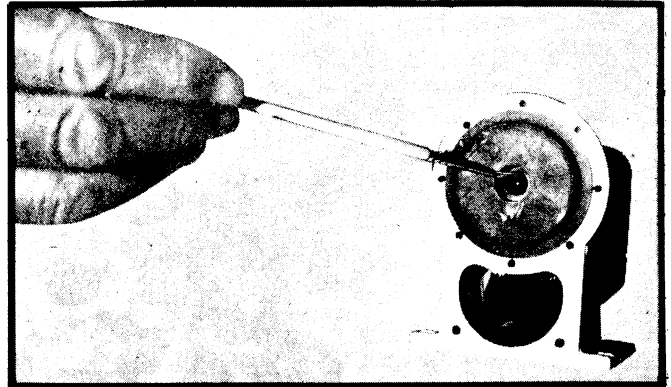

Figure 82
- c. Carefully wipe some pliobond or rubber cement to the outer edge of lip seal, *Figure 82*.